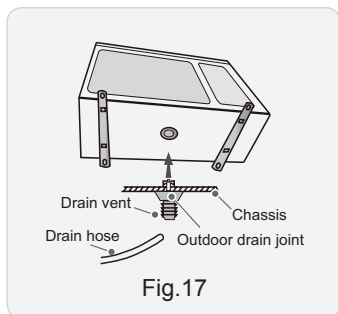

Fig.17
- (1) Connect the outdoor drain joint into the hole on the chassis.
- (2) Connect the drain hose into the drain vent.
- (As show in Fig.17)